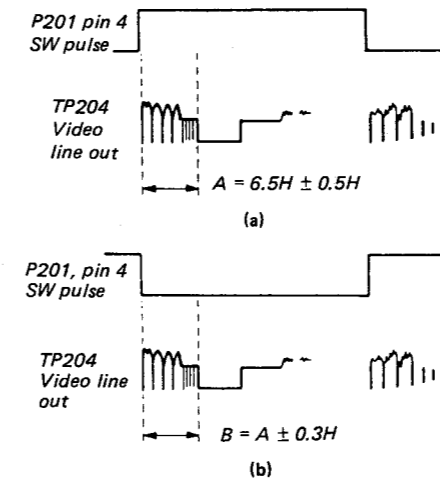

Fig. 1-4-9 Playback phase adjustment
3. Adjust R551 for time interval of $6.5 \pm 0.5H$ (= A) between video switching signal and V sync pulse. (Fig. 1-4-9 (a))
4. Next, adjust R552 until time interval of $A \pm 0.3H$ is obtained between falling edge of SW pulse and V sync pulse. (Fig. 1-4-9 (b))